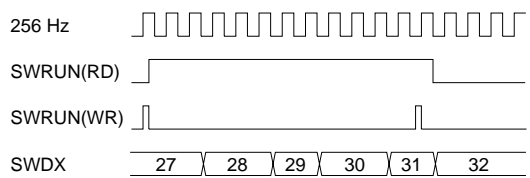

Fig. C.2 Timing chart of RUN/STOP control
- (1) The stopwatch timer is actually made to RUN/STOP in synchronization with the falling edge of the 256 Hz signal after writing to the SWRUN register. Consequently, when "0" is written to the SWRUN, the timer shifts to STOP status when the counter is incremented "1". The SWRUN maintains "1" for reading until the timer actually shifts to STOP status. Figure C.2 shows the timing chart of the RUN/STOP control.